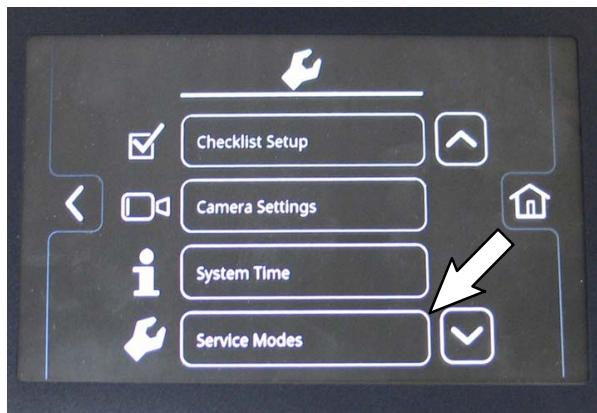

FIG. 30
29. Press the settings button. The Service Mode setting screen should appear in the display. (Fig. 29 / Fig. 30)
30. Use the down arrow button to scroll down to the Service Modes button and select the Service Modes button to access the service modes. (Fig. 30)